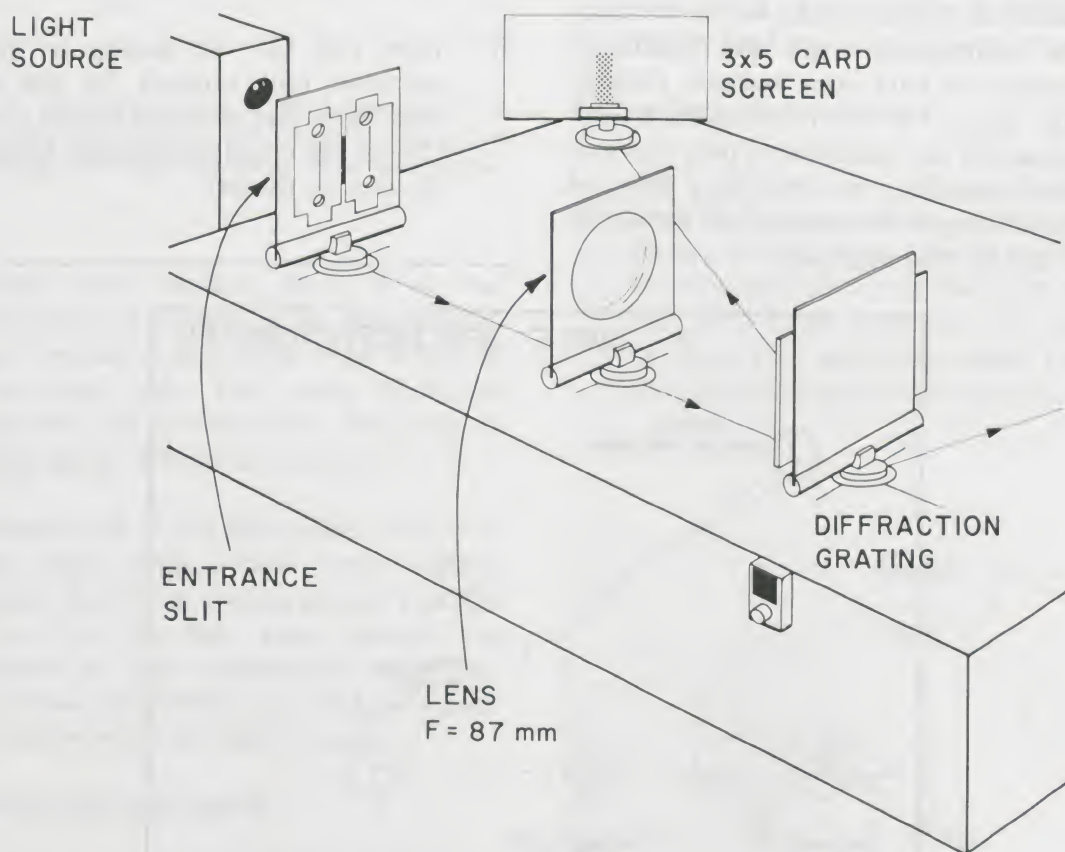

Figure 7. A spectrophotometer using only a slit, lens, and grating. It spreads the light from the source into a spectrum on a 3 X 5 index card.
2. Place the components on the base as shown in Figure 7 and the plan below. When you do this, you should see the colors of the rainbow in a spectrum on the white 3 × 5 index card. You may have to make some adjustments to make it work best. This procedure is called *alignment*.